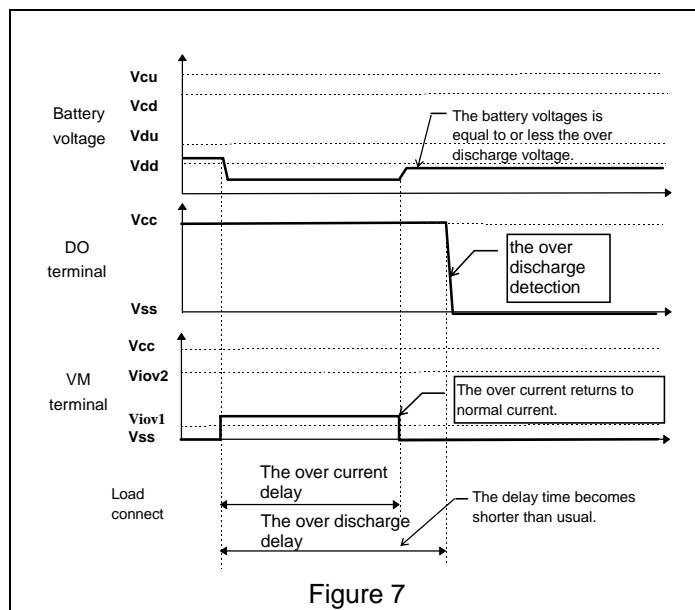

Figure 7
(1) After the overcurrent detection delay, if the battery voltages is equals the overdischarge detection voltage(VDD1,2) or lower, the overdischarge detection delay time becomes shorter than 10mS(min.). It occurs because capacitor C3 sets all of delay times. (Refer fig.7)